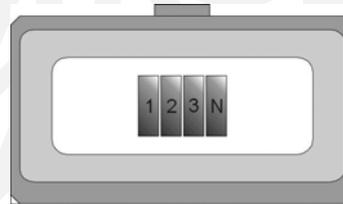

Fig. 1
2. Ensure the busbars are located centrally in the toroid. (Fig. 1)